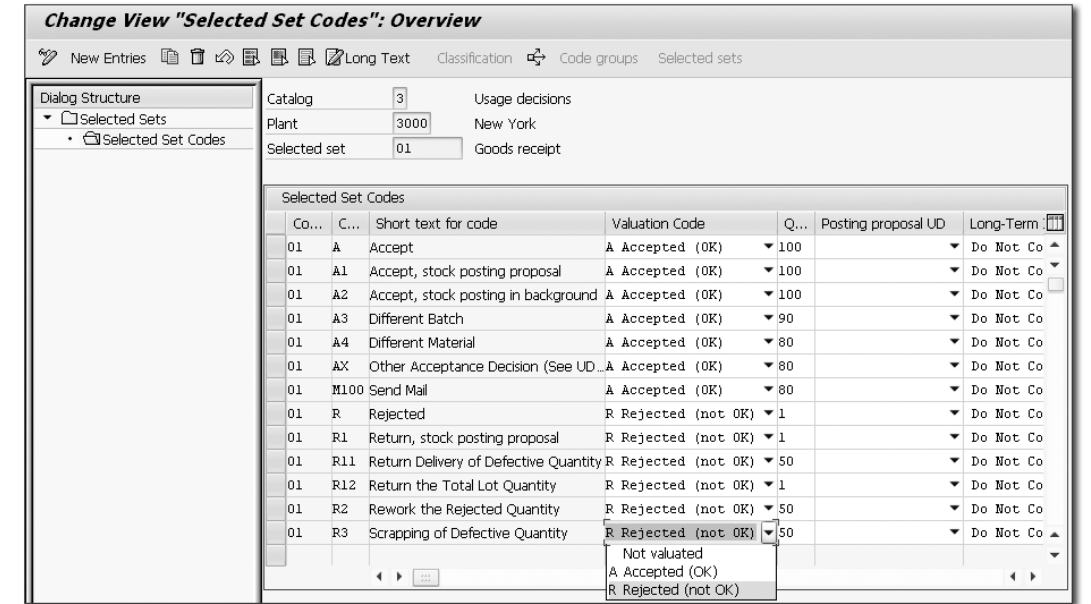

Figure 3.58 Selected Set
Figure 3.58 shows the catalog 3 (usage decisions) for plant 3000 and selected set 01 (goods receipt). Notice that the first column is the code group of selected set 01, whereas the second column is the individual code within the selected set. Each code of a selected set can have a Valuation code, such as ACCEPTED (OK), REJECTED (NOT OK), or NOT VALUATED. The column Q... is for quality scores; here, you can assign a quality score that is associated with each code of a selected set.